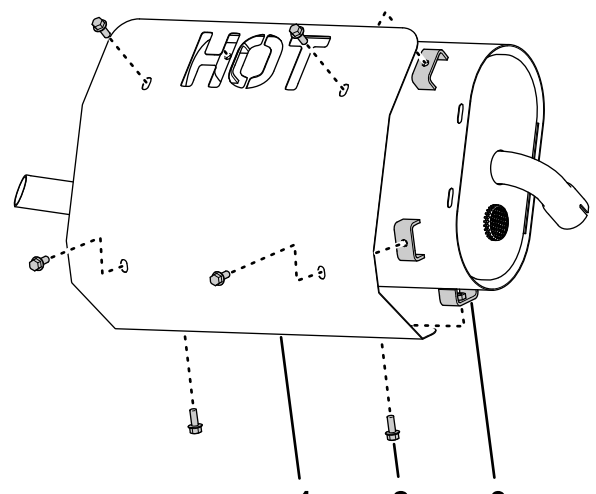

Figure 7
2. Assemble the shield to the muffler (Figure 7) with 6 flanged-head bolts (1/4 x 5/8 inch).
1. Align the holes in the heat shield with the weld nuts in the shield supports of the muffler (Figure 7).